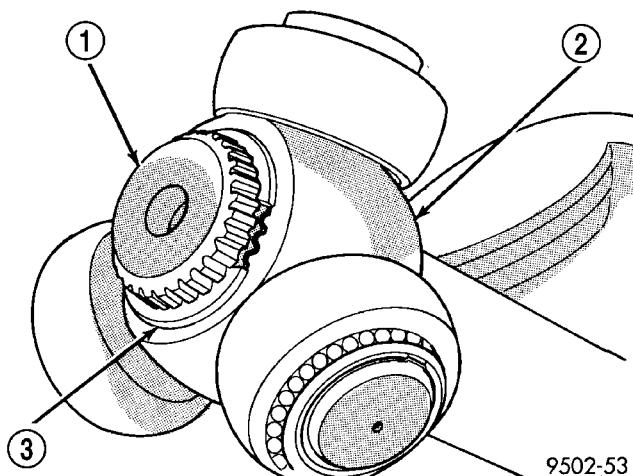
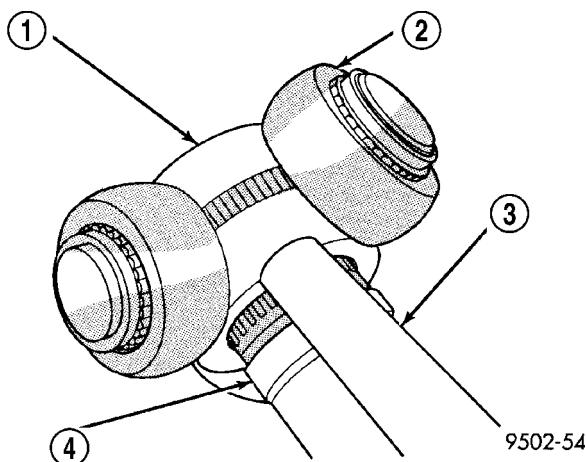

Fig. 30 Spider Assembly Retaining Snap Ring
Fig. 31 Spider Assembly Removal from Interconnecting Shaft
(4) Remove snap ring that retains spider assembly to interconnecting shaft (Fig. 30). Remove the spider assembly from interconnecting shaft. If spider assembly will not come off interconnecting shaft by hand, it can be removed by tapping spider assembly with a brass drift (Fig. 31). **Do not hit the outer tripod bearings in an attempt to remove spider assembly from interconnecting shaft.**
(5) Slide sealing boot off interconnecting shaft.
(6) Thoroughly clean and inspect spider assembly, tripod joint housing, and interconnecting shaft for any signs of excessive wear. **If any parts show signs of excessive wear, the halfshaft assembly**